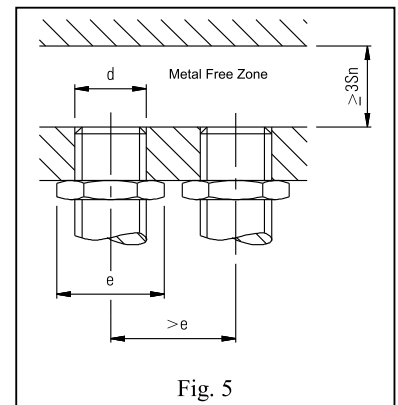

Fig. 5
**Flush Fitting.** Inductive proximity switches intended for flush fitting are not affected by surrounding metal and can be installed immediately adjacent to metal surfaces. (see figure 5)